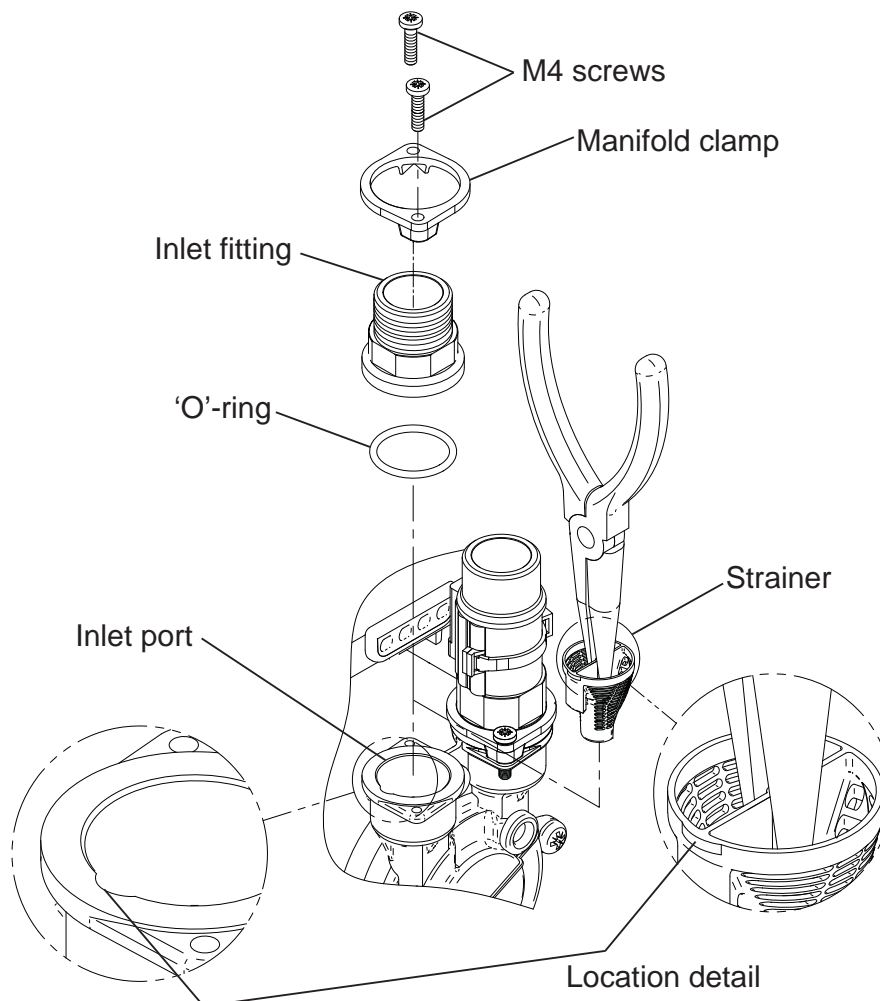

Fig. 15
The strainer is located in the inlet assembly of the pump casing (Fig. 15) and is removed as follows:-
- d) Remove M4 screws (2 off) from inlet assembly, lift brass inlet fitting (with 'O'-ring) and clamp away from pump casing (Fig. 15).
- e) Remove strainer with long nose pliers noting location lug position upon removal (Fig. 15) and clean thoroughly.
- f) Refit strainer taking care to position lug in body inlet port location slot (Fig. 15) and re-assemble pipework. Tighten M4 clamp screws to 1.5 Nm torque.